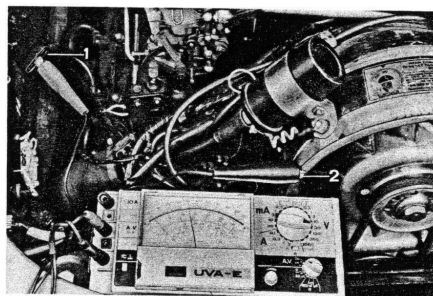

Fig. 5
2. Switch the ignition on. The CDS unit should make a whistling sound. If no whistling sound can be heard remove the connector from the CDS unit and connect a voltmeter between terminal B (center terminal of connector) and ground. With the ignition turned on, it should be at least 11 volts. If the operating voltage is correct and the CDS unit does not make a whistling sound when connector is plugged in, the CDS unit must be replaced (see Fig. 5).